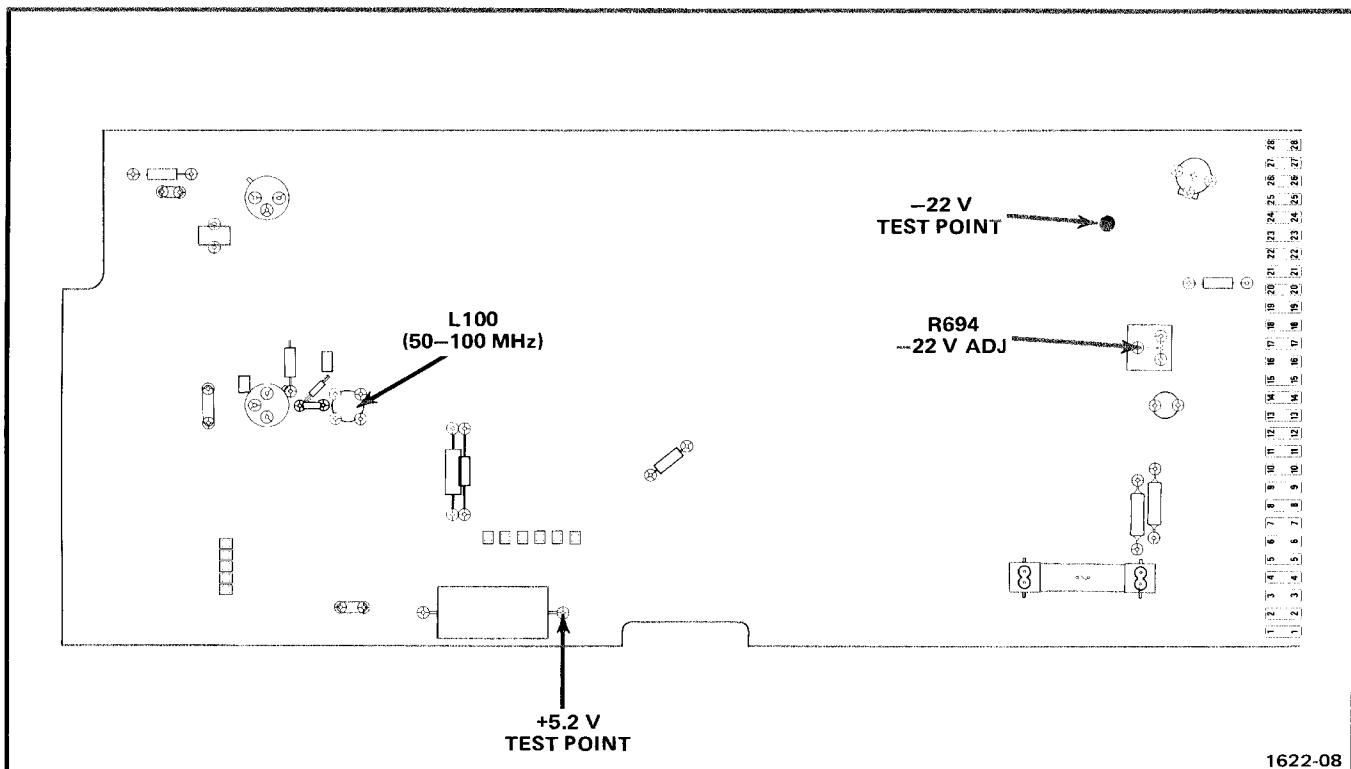

Fig. 3-1. Location of test points, L100, and -22 volt adjustment.
a. Connect the digital voltmeter between the -22 V test point on the Main circuit board, and chassis ground. See Fig. 3-1 for voltage test point location.
c. Adjust—-22 V adj, R694, for a meter reading of -22 volts. See Fig. 3-1 for adjustment location.
a. Connect the digital voltmeter between the +5.2 V test point on the Main circuit board, and chassis ground. See Fig. 3-1 for voltage test point location.